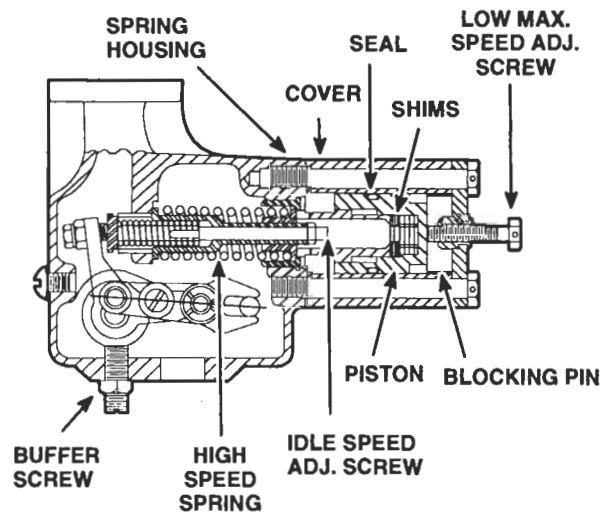

Figure 5. Dual Range Governor
12. On current turbocharged engines, adjust the external starting aid screw (Fig. 5). As follows:
- b. Adjust the starting aid screw to obtain the required setting between the shoulder on the injector rack clevis and the injector body (Fig. 5). Select the proper gage and measure the setting at any convenient cylinder. When the starting screw is properly adjusted, the gage should have a small clearance of 1/64" in the space along the injector rack shaft between the rack clevis and the injector body.
With the spring housing assembly mounted on the governor, the piston and sleeve assembled with four .100 inch shims and ten .010 inch shims (Figure 5.) and the low maximum speed screw extending from the spring housing approximately 1 1/4 inch, proceed as follows: